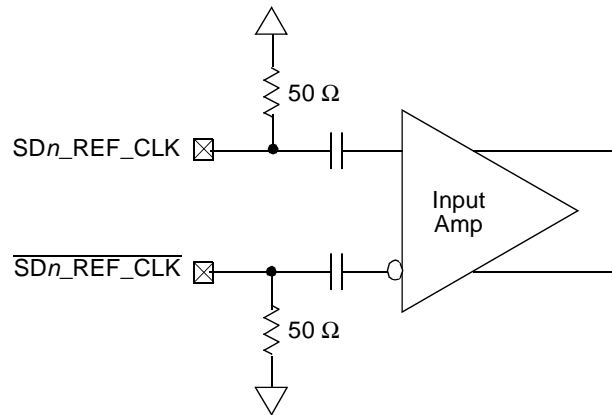

Figure 55. Receiver of SerDes Reference Clocks
Figure 55 shows a receiver reference diagram of the SerDes reference clocks.
- The SDn_REF_CLK and $\overline{\text{SDn_REF_CLK}}$ are internally AC-coupled differential inputs as shown in Figure 55. Each differential clock input (SDn_REF_CLK or $\overline{\text{SDn_REF_CLK}}$) has a 50Ω termination to SGND_SRDSn (xc0revss) followed by on-chip AC-coupling.